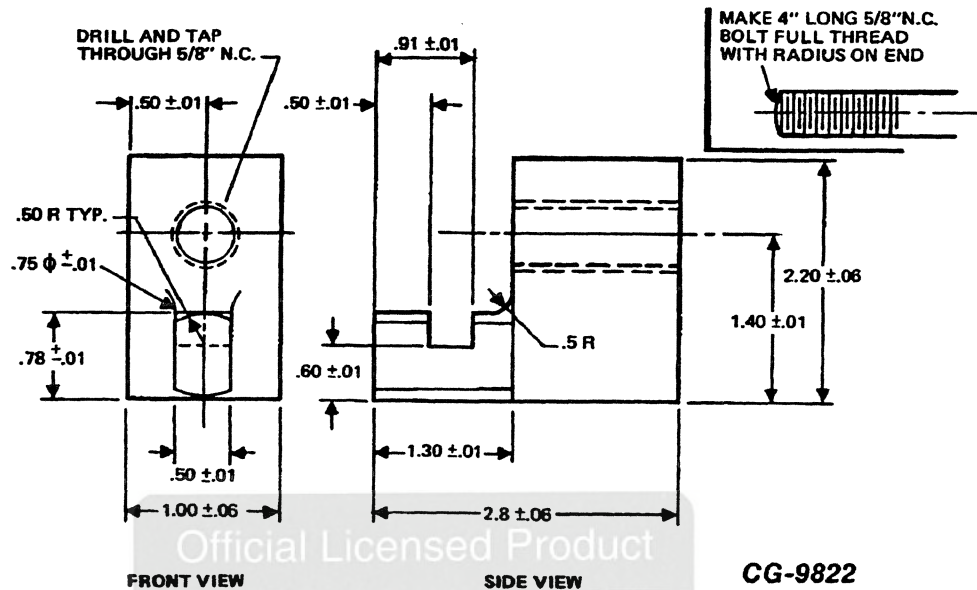

Figure 6.11. Crankshaft Front Oil Seal Remover (Made Locally)
1. With crankshaft pulley and damper removed, use the crankshaft front oil seal remover tool (made locally), Figure 6.11.
**NOTE:** Construct tool following the dimensions provided in Figure 6.11.